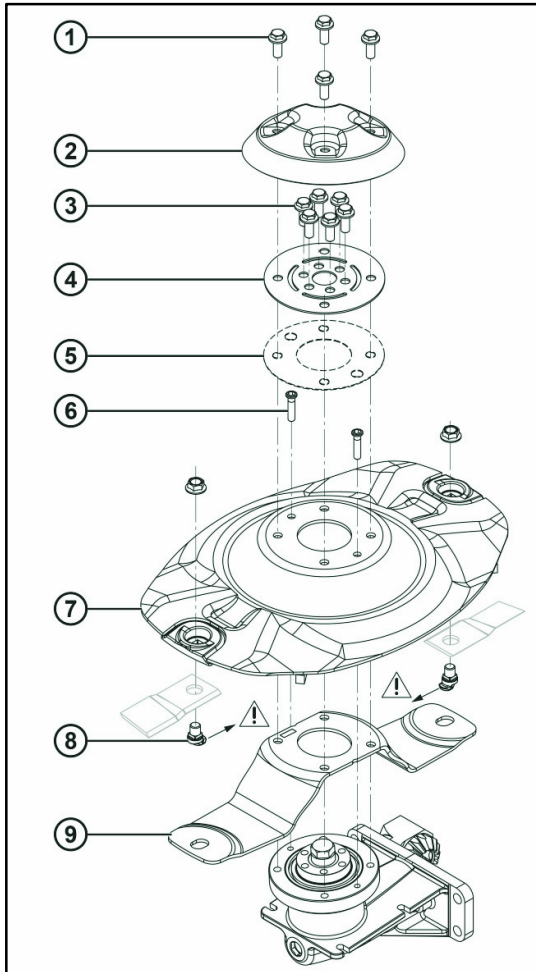

Fig. 96 Fitting the retaining bolt and retaining spring
- ➔ Tighten the six inner bolts (Fig. 96, 3) in a crosswise sequence.
Bolt tightening torque (Fig. 96, 3): 110 Nm
- ➔ Fit the cover (Fig. 96, 2) to the driveGUARD element.
Bolt tightening torque (Fig. 96, 1): 110 Nm